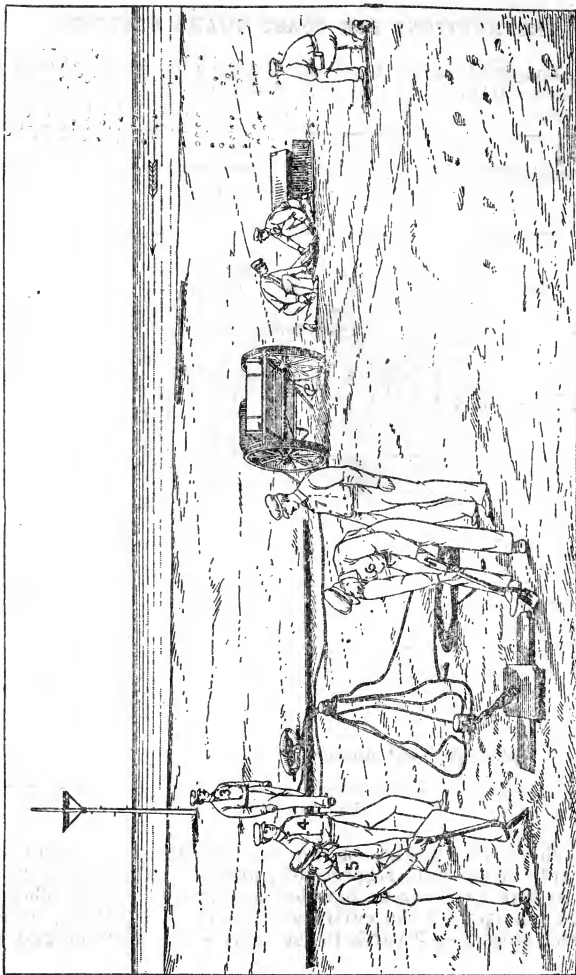

FIG. 4.—Relative positions of men while placing apparatus.
380. (1) *Action.*—The relative positions assumed by the men for the purpose of placing the apparatus are shown by fig. 4. The current is supposed to be running from the right, as shown by the arrow.
(2) Officer in charge puts on his haversack; *No. 4* throws buoy off the cart; *Nos. 5, 6, and 7* unload the shovels, pick, and sand anchor, and proceed at once to bury the sand anchor where directed by the officer in charge. The sand anchor must be opened, its sides at right angles to each other, and buried upon its flat in a narrow trench of sufficient depth, say 2 feet, and the trench then filled in solidly about it. *Nos. 2 and 3* remove the shot-line box. The officer in charge and *No. 1* remove the gun, and place it in position four or five paces to windward of the cart; *Nos. 2 and 3* place the shot-line box, inverted, on a line with the muzzle of the gun, and 3 feet to windward (wind), unless the wind is directly on shore, when they will place it to the right, and, after lifting the pins clear of the line, will cant the box in the direction of the wreck.
(3) If through carelessness the shot line has been faked too tightly upon the pins, it should not be forced off the pins by the bottom board, which is liable to split, but the frame should be raised and a few of the bottom fakes removed with the hand when the remainder will fall off into its place in the box.
(4) Officer in charge loads with cartridges, *No. 1* provides the shot, wipes and holds it while *No. 2* wets a fathom of the shot line and bends it into the shank with three half hitches. *No. 1* then inserts the shot into the bore from side of gun, forcing it